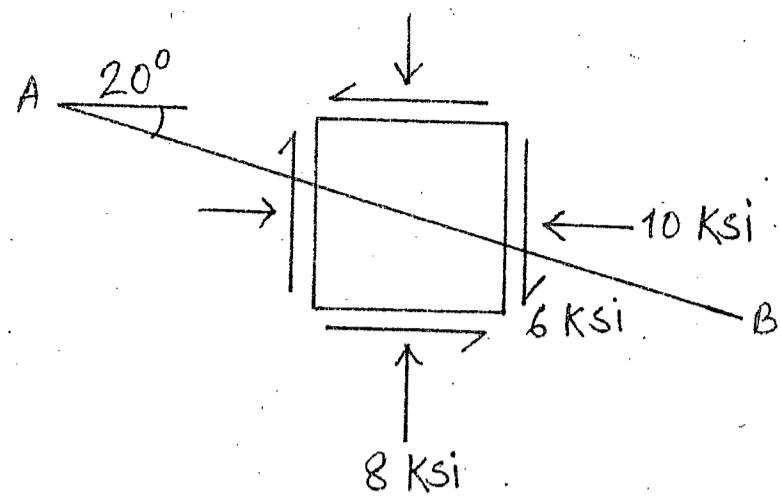

Figure 7
8. State of stresses for an element is shown in Figure 7. Calculate the normal and shear stresses on plane AB. (14)
9. Using Mohr's circle of stresses, for the element shown in Figure 7, (14)